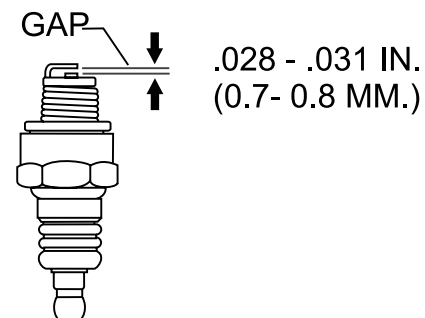

Figure 35. Spark Plug Gap
5. Measure the spark plug electrode gap (Figure 35) with a wire-type feeler gauge. If needed, adjust the gap to 0.70–0.80 mm (0.028–0.031 in.) by carefully bending the side electrode.